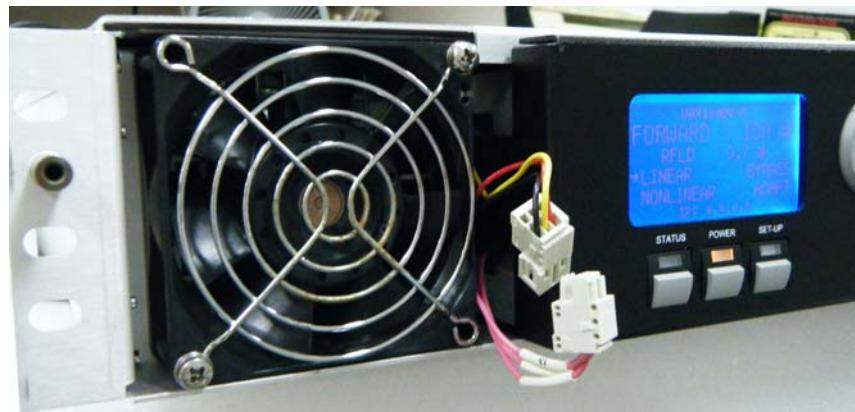

Figure 5-7 UAX-C Fan Connection
STEP 3 Unplug the connectors that supply DC to the fan. The unplugged connectors are shown in Figure 5-7.